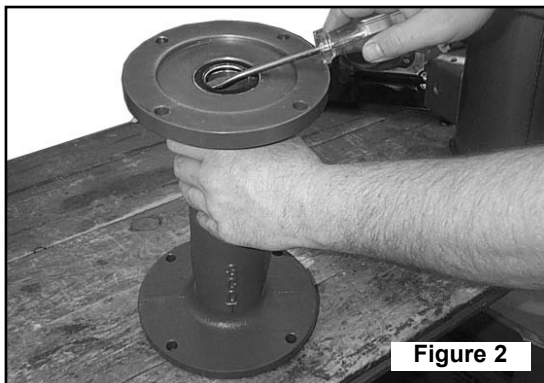

Figure 2
10. Remove lip seal from adapter as shown in Figure 2.
12. Remove lip seal from adapter as shown in Figure 2.